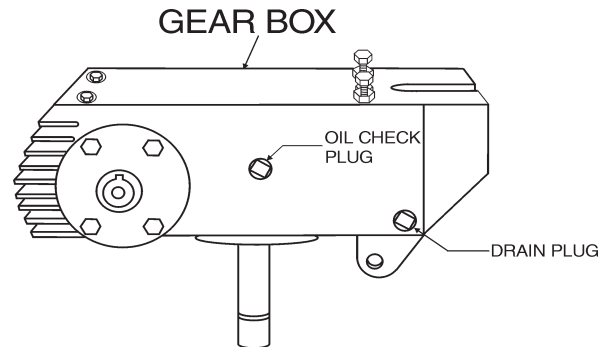

Figure 6. Gearbox Oil Plugs
1. Check the gearbox oil level in both gearboxes by removing the plug located on the side of the gearbox. See Figure 6.